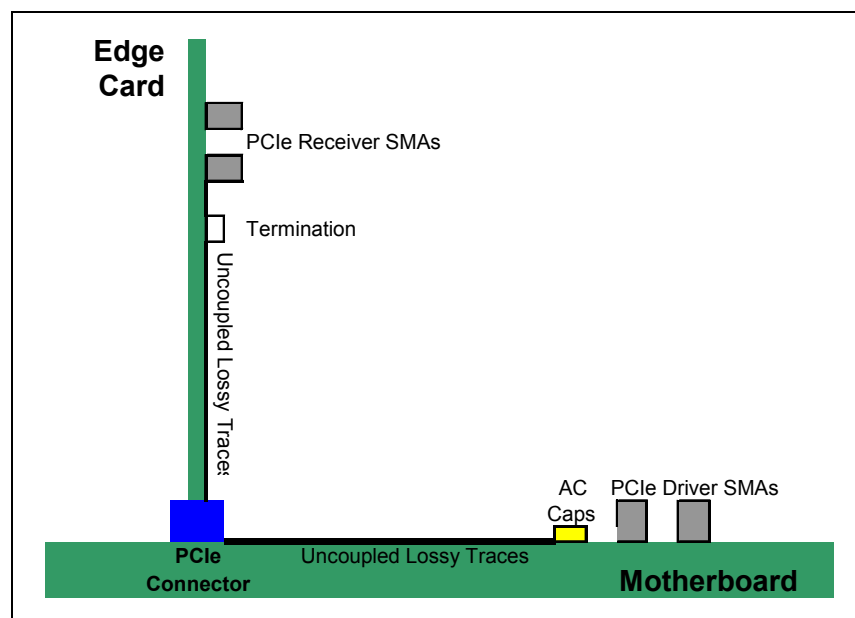

Figure 1 - PCI Express Test Circuit
The test circuit modeled is shown in Figure 1. It consists of the following:
- 1.) The total trace length specified is the sum of the mother board and daughter card differential traces as shown in Figure 1. Both trace lengths are equal in each simulation.